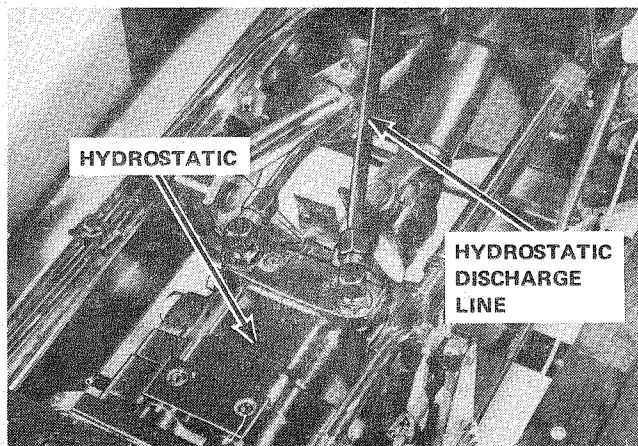

Figure 1
3. Remove discharge line from hydrostatic and control valve. See figure 1.